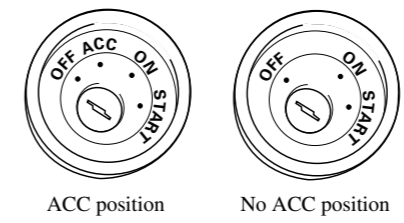

Fig. 1
- **This unit cannot be installed in a vehicle that does not have an ACC (accessory) position on the ignition switch. (Fig. 1)**